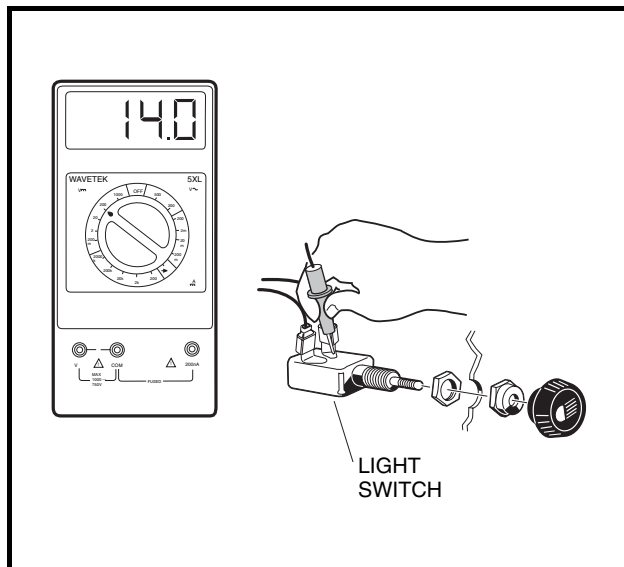

Figure 11-55 Light Switch Test
4. Use a multimeter set on 20 volts DC with alligator clips on the meter probes. Connect the red (+) probe to the light switch terminal with the blue wire connected to it (Figure 11-55, Page 11-45).